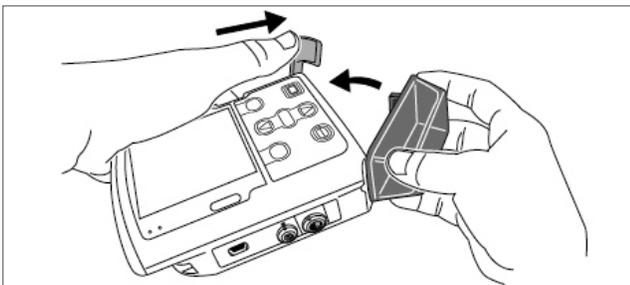

Figure 17: Removing the cassette
5. Remove and discard the cassette as directed by your clinician. See Figure 17.